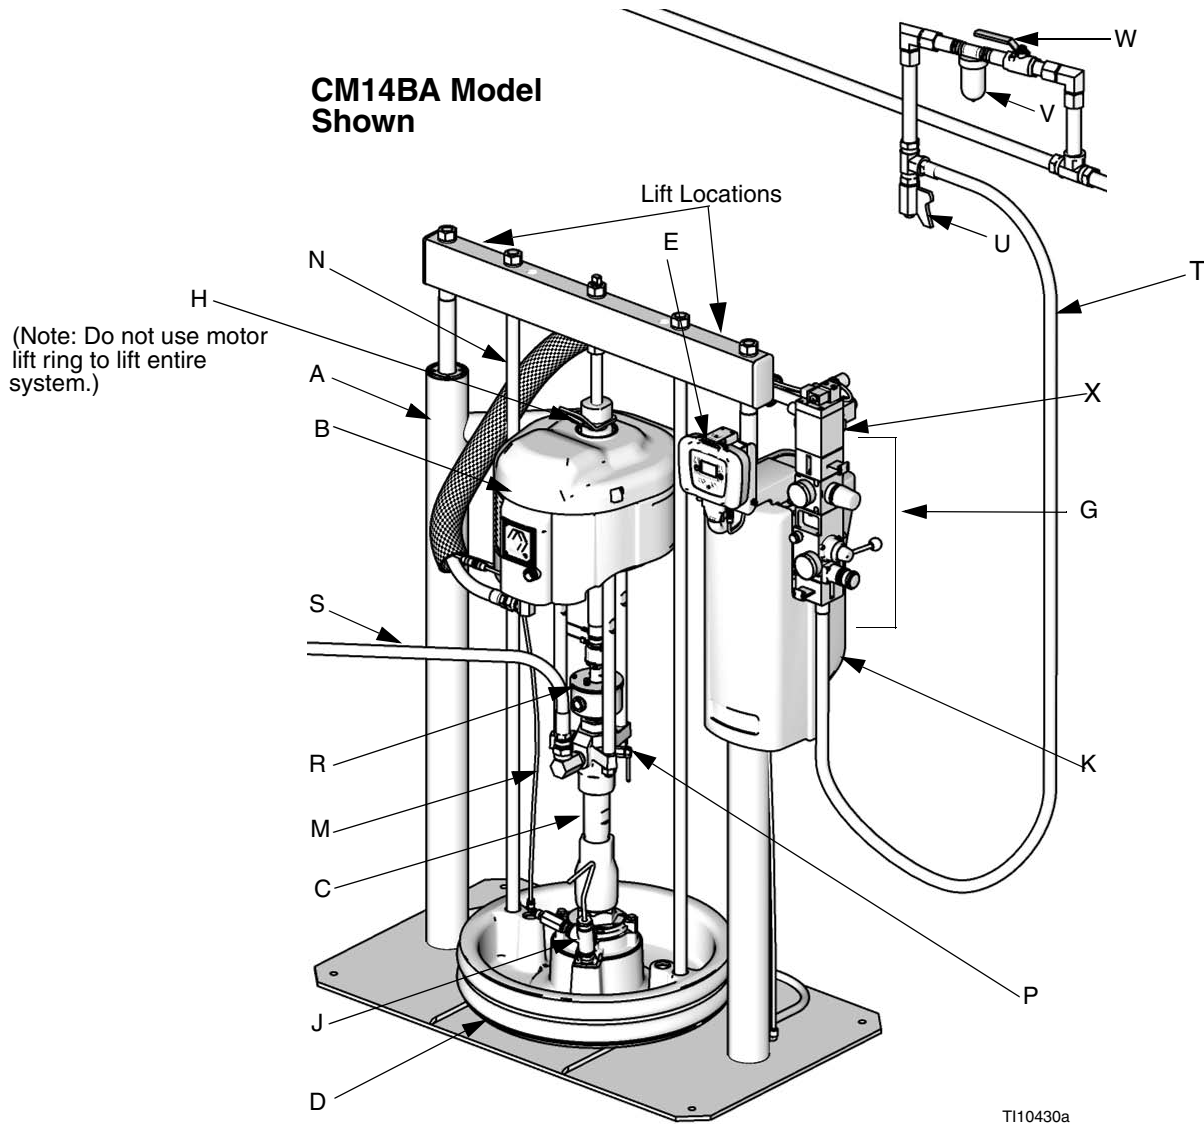
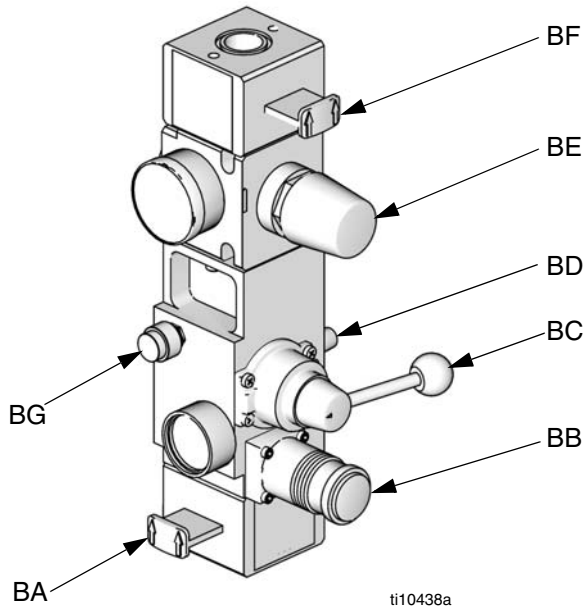
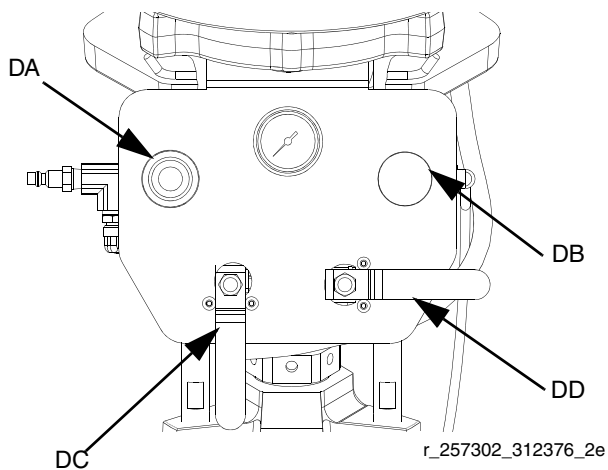

FIG. 1
FIG. 3. Integrated Air Control Module
FIG. 7: Elevator Air Controls
| G | Integrated Air Controls (see FIG. 3) | U | Air Line Drain Valve (not supplied) |
| <ul style="list-style-type: none"> A Ram Assembly B Air Motor C Displacement Pump D Platen F Remote DataTrak (single ram systems) or Display Module (tandem systems) G Integrated Air Controls (see FIG. 3) H Lift Ring J Platen Bleed Port K Power Supply Box (under shrouding) P Pump Bleed Valve R Enclosed Wet Cup S Fluid Line (not supplied, see FIG. 1) T Air Line (not supplied, see FIG. 1) U Air Line Drain Valve (not supplied, see FIG. 1) | <ul style="list-style-type: none"> V Air Filter (not supplied, see FIG. 1) W Bleed Type Air Shutoff Valve (not supplied, see FIG. 1) X Air Motor Solenoid |
See FIG. 1.
2. **For D200s, D200, S20, and D60 Air Controls:** See FIG. 3, page 12.
- a. Close the air motor slider valve (BF) and the main air slider valve (BA).
- c. Jog the director valve (BC) up and down to bleed air from ram cylinders.
3. **For L20c Air Controls:** See FIG. 7, page 14.
- a. Close the air motor valve (DC) and the elevator director valve (DD). The ram will slowly drop.
7. Open the fluid line drain valve and the pump bleeder valve (P). Have a container ready to catch the drainage.
8. Leave the pump bleeder valve (P) open until ready to spray again.